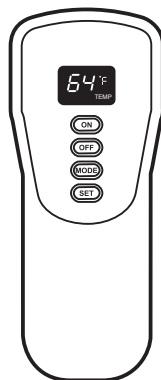

Figure 22 - Remote Control
1. Place the slide switch on the receiver in the remote position (see Figure 22).
4. Press the ON button on the remote control to light the burner (see Figure 22). You will hear a series of beeps. This will also "learn", or program, the remote and the receiver.
The factory setting for temperature is °F. To change this setting to °C, press the ON key and the OFF key on the remote control at the same time (see Figure 22, page 18). This will change from °F to °C. Follow this same procedure to change from °C back to °F.